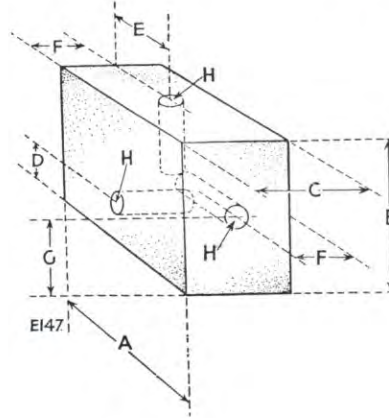

Fig. 3—Drilling rubber block.
6. Obtain a suitable block of black rubber and drill three holes $\frac{9}{32}$ in. (7,0 mm) diameter and $\frac{3}{4}$ in. (19 mm) deep as shown at Fig. 3.